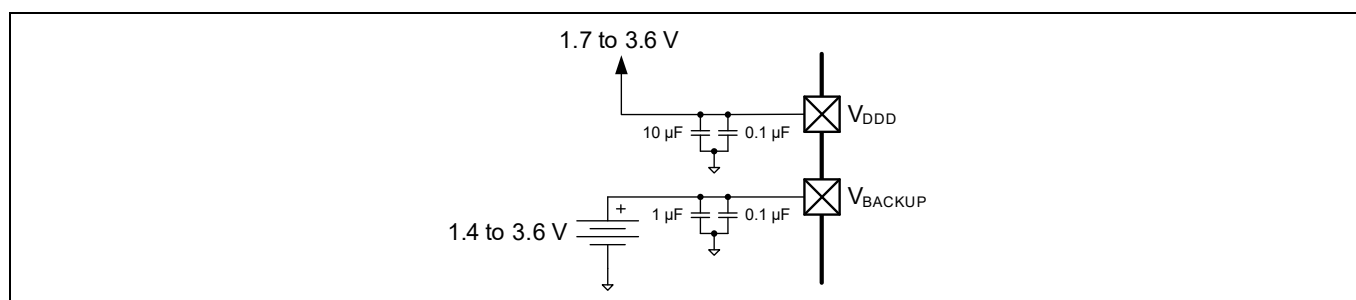

Figure 16 Separate battery connection to V_{BACKUP}
- V_{BACKUP} : the supply for the backup domain, which includes the 32-kHz WCO and the RTC. It can be a separate supply as low as 1.4 V, for battery or supercapacitor backup, as Figure 16 shows, otherwise it is connected to V_{DDD} . It powers I/O port 0.